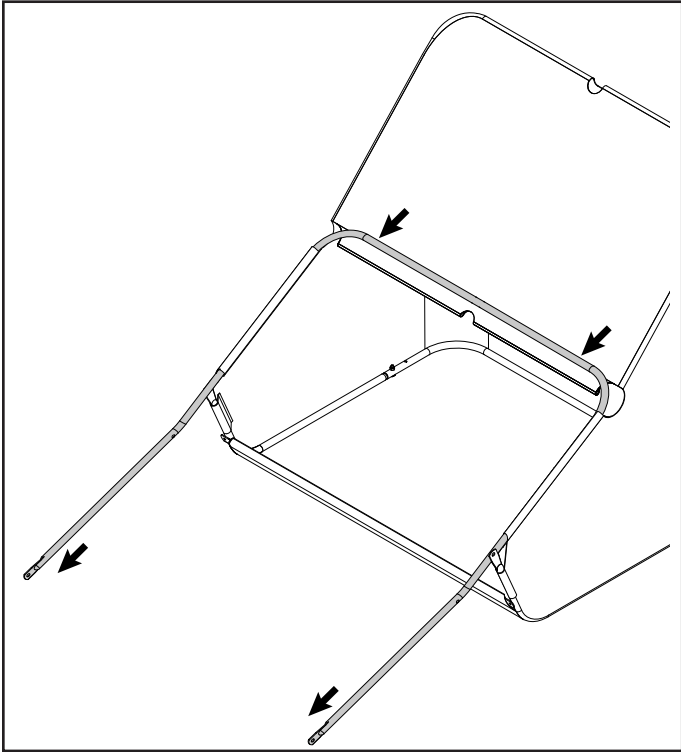

FIGURE 11
18. Slide the assembled tubes down through the flaps in the sides of the hopper bag (3) as shown in figure 11.